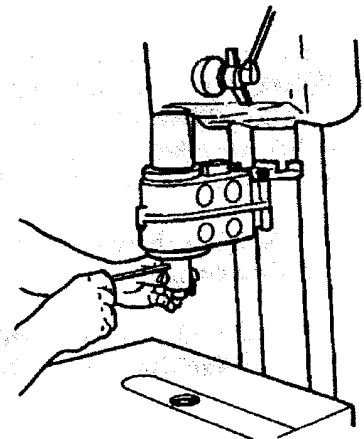

Fig.18
4. If you have one, install a shaper/drum sander table insert into the worktable. Fig.18 shows this insert.
8. Install the drill chuck, shown in Fig.18.